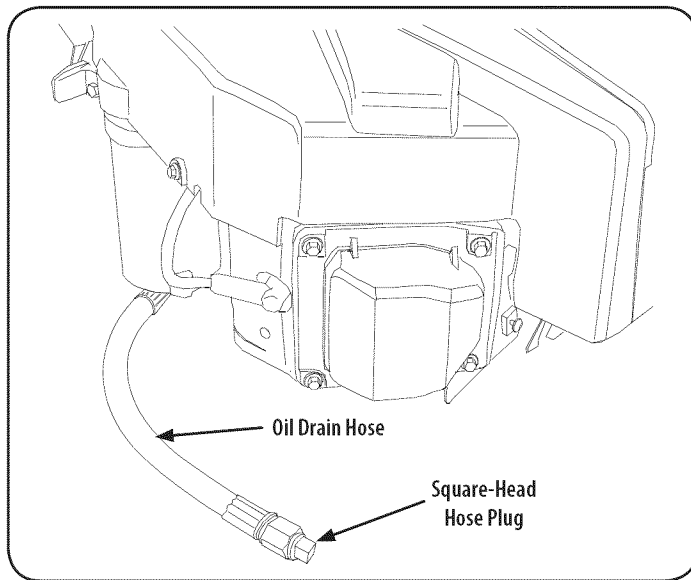

Figure 13
2. Locate the oil drain hose on the left side of the engine. See Figure 13.
4. While holding the free end of the oil drain hose over the oil collection container, unscrew the square head hose plug from the end of the hose. See Figure 13. Drain the engine oil into the collection container.